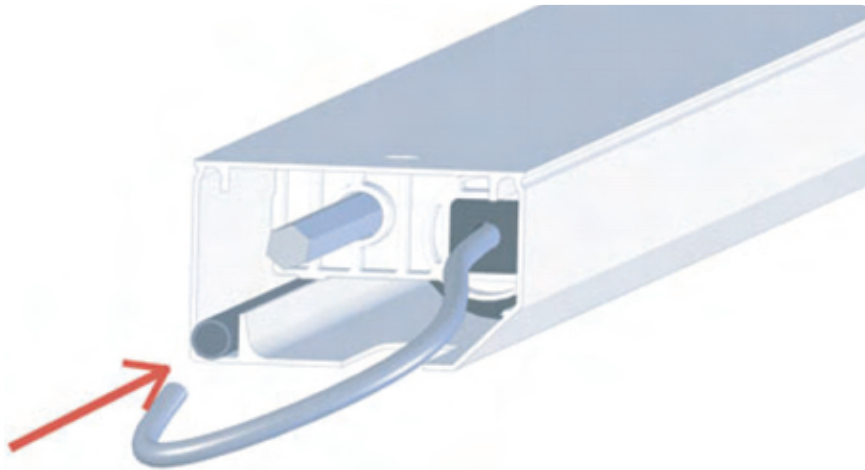

Fig. 25
- route the electric cable through the tube in PVC (see image Fig.25).